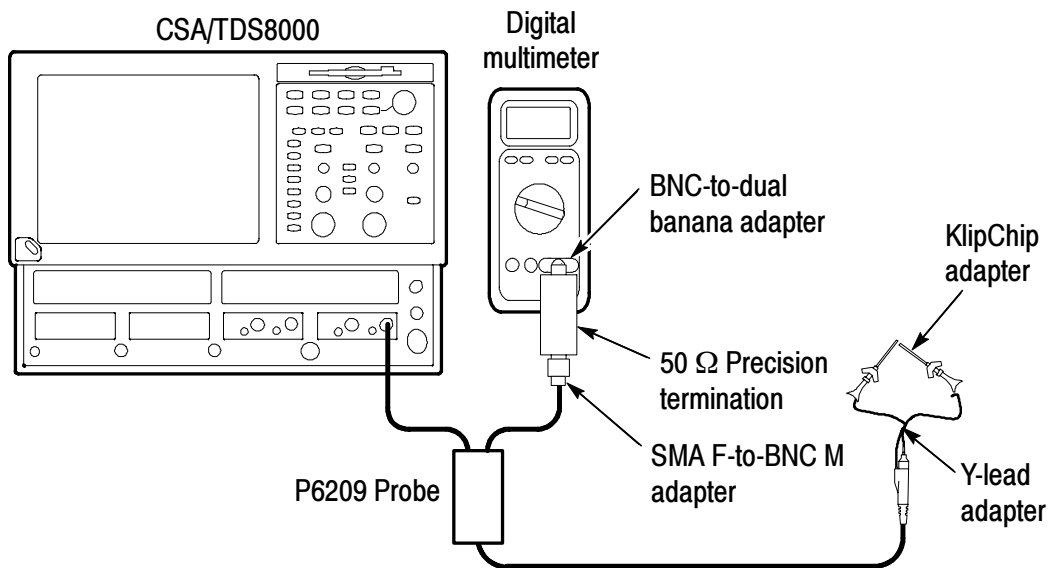

Figure 18: P6209 offset zero setup
- Connect the equipment as shown in Figure 18.